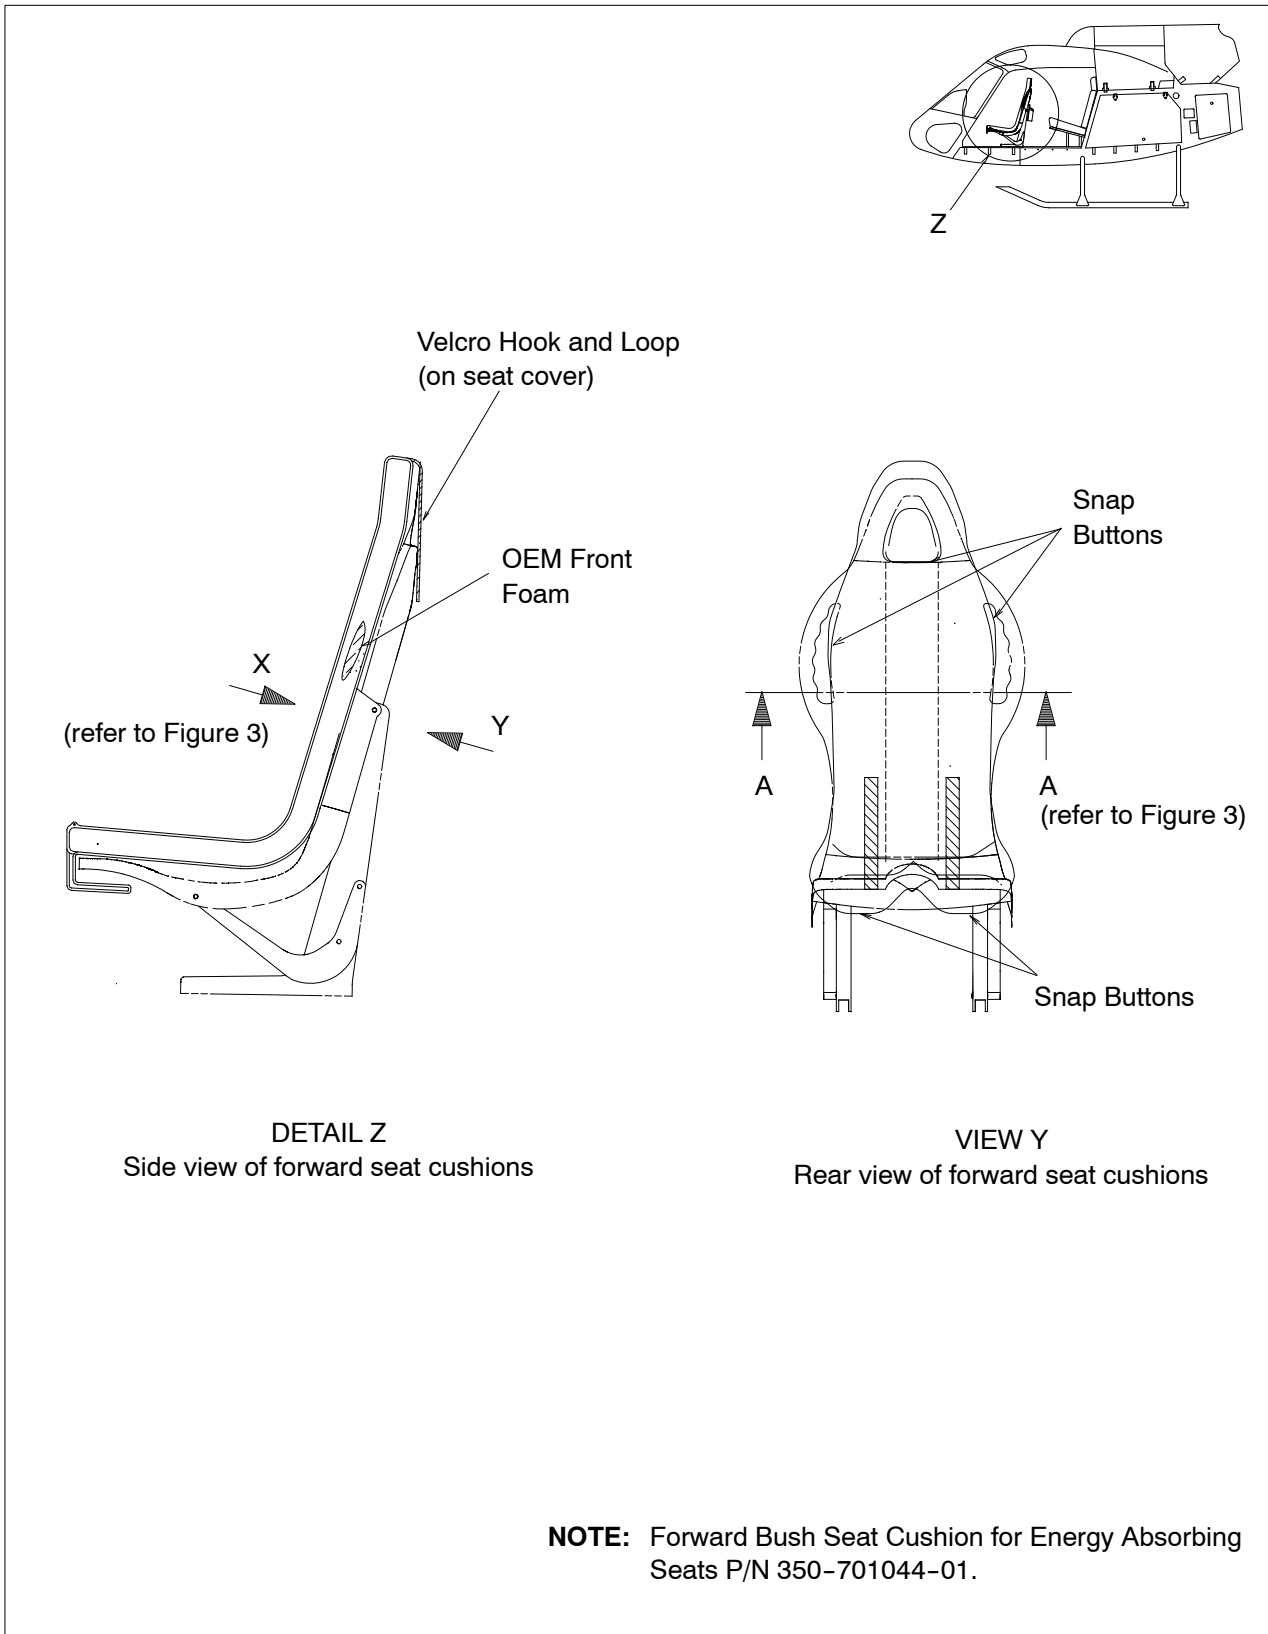

Figure 2 Forward Bush Seat Cushion Details (Sheet 1 of 2)
- 1) FWD SEAT CUSHIONS (Refer to Figure 2)